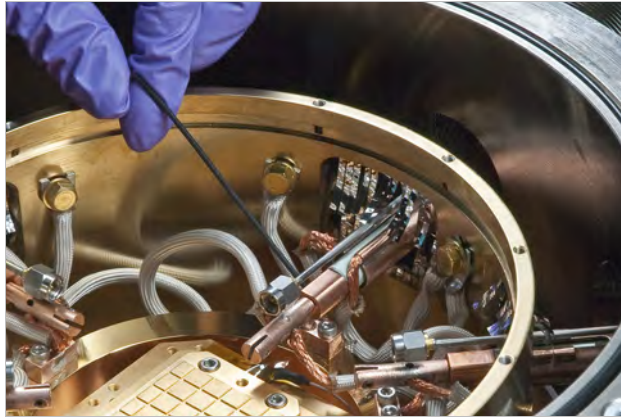

FIGURE 3-21 Loosen the probe arm set screws
1. Using the 1.5 mm hex driver, loosen the set screws on the probe arm so that the probe mount can rotate freely (FIGURE 3-21).
5. Using the 1.5 mm hex driver, loosen both M3 probe arm set screws two to three turns and slide the dowel out of the probe arm (FIGURE 3-21).
4. Using the 1.5 mm hex driver, loosen the set screws on the probe arm and slide the dowel of the microwave probe into the probe arm (FIGURE 3-21).